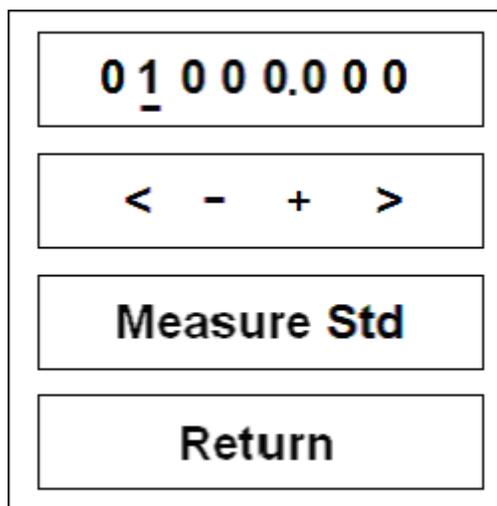

Figure 6. Standard setting screen
- After the blank is read, the screen will become the one shown in Fig. 6.